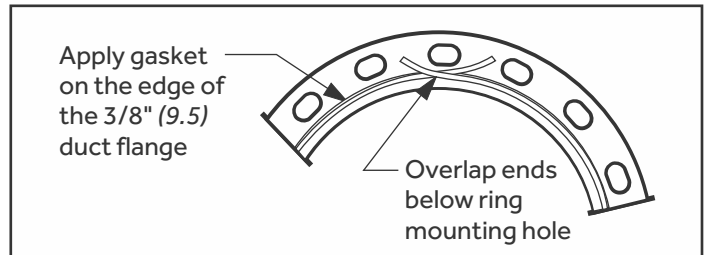

Fig. 10: Gasket installation for floating & fixed rings
4. Install Gasket 32" - 120" (812.8 - 3048.0): To start installation, snap the gasket to peel the backing near one end. Press the exposed adhesive side of the gasket firmly onto the angle ring below one of the holes at the top to the ring. Smoothly adhere the gasket around the outside edge of the rolled duct flange. Overlap the end between 1" (25.4) and 2" (50.8) just below the beginning bolt hole and continue up next to the hole before trimming. Again, run a finger along the gasket to seat the adhesive. (Fig. 10)